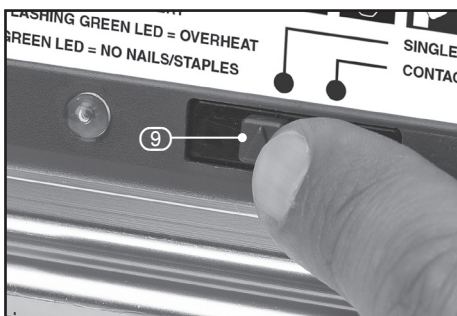

FIG.10
9.2 CONTACT FIRING MODE – FIG. 10